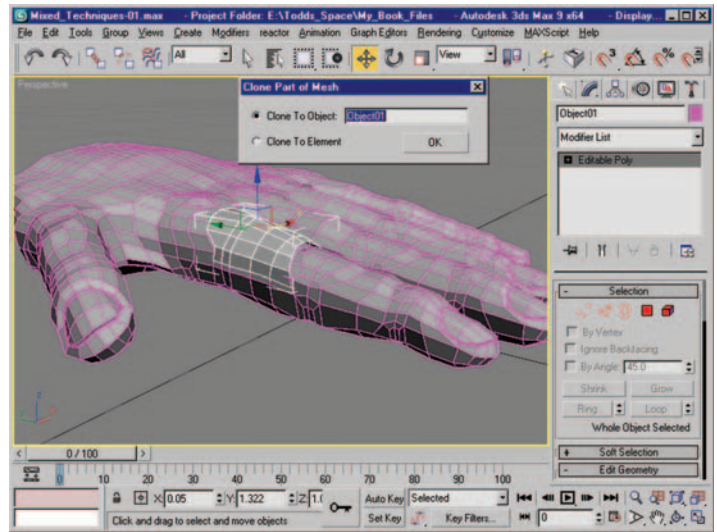

Figure 10.3 Polygon selection cloned to a new object.
4. Shift-drag the polygon selection up along the Z-axis and select the Clone To Object option. This makes the new group of polygons into a new and separate mesh. This mesh will be the armor for the fingers (Figure 10.3).